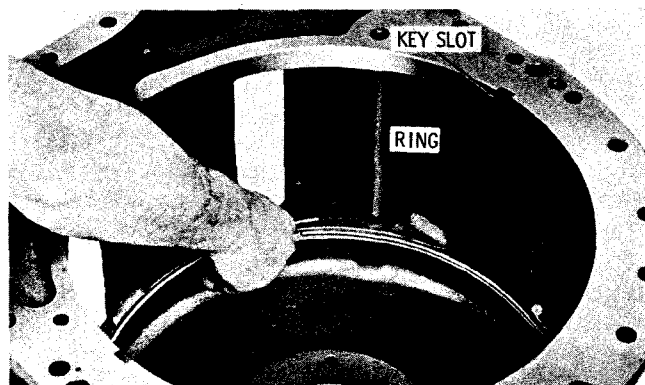

Fig. 7-3. Installing compression ring
(3) Turn the transmission housing assembly over and position it on wood blocks, front end down. Block the transmission at least six inches above the work table to allow for space to reach under and rotate the splitter ring gear hub. Refer to (7), below. Install two (one at each side) anchor keys (approximately 2.7 in. long). Install the compression ring (fig. 7-3).